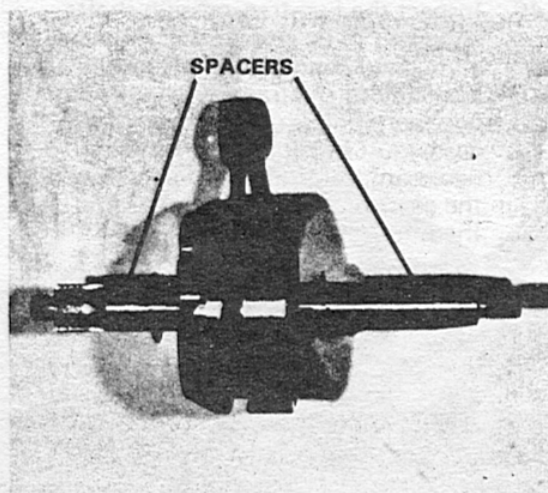

Fig. 14
49. Withdraw the crankshaft assembly. Notice that spacing shims are used on either side of the crankshaft assembly. (Figure 14) If the same crankshaft is to be replaced, keep these spacers on the crankshaft so that the crankshaft end play will not be affected. The number and thickness of spacers on this crankshaft varies from engine to engine. Occasionally, the spacing shims will stick to the crankshaft bearings. Inspect the bearings carefully to be certain that these shims have been removed from both crankcase sections if oil has caused them to adhere to the bearings.
8. Be certain that the crankshaft end play shims are positioned on both sides of the crankshaft. (See Figure 14.) Put the crankcase gasket into position, install the other crankcase section and insert the crankcase retaining screws tightly. The crankshaft should now be checked for end play. If there is more than .010 to .015" of end play, additional shims must be added to the crankshaft.